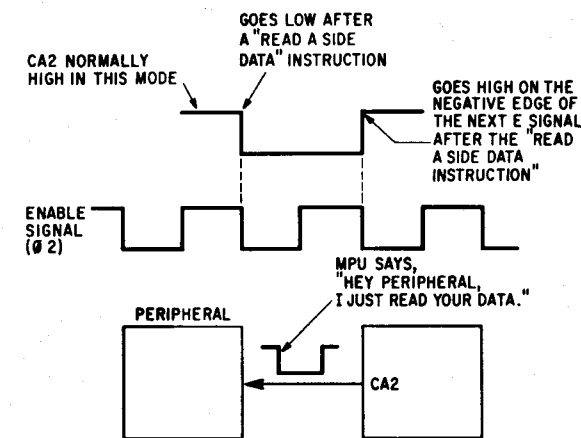

Fig. 9.18 Pulse mode
2. **Bits 5, 4, and 3 of CRA = 101 (Pulse Mode)** This mode, which tells the peripheral that the data on peripheral data register A has been read by the MPU, is used when a complete handshake is not required. The peripheral may make data available to the MPU on a continuing basis but needs to know when the MPU takes the data (see Fig. 9.18).